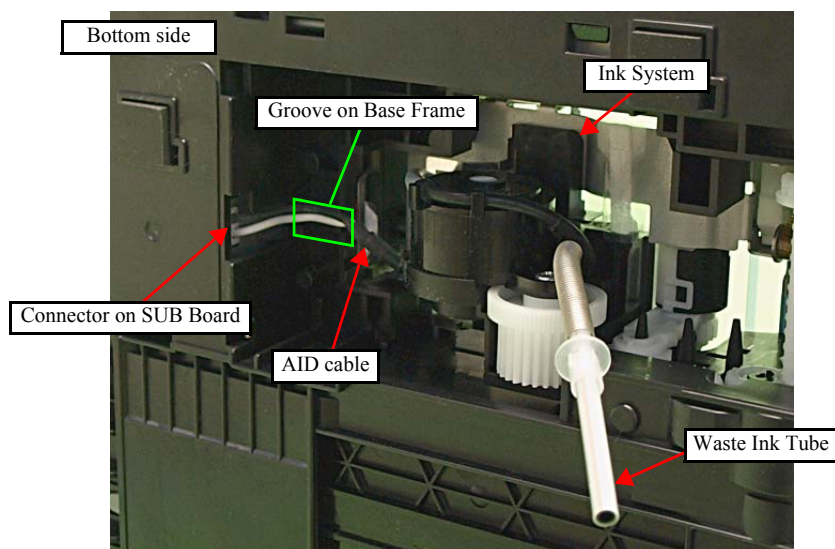

Figure 4-84. Removing the Ink System (2)
4. Disconnect the AID cable from the connector on the SUB Board. (See Fig. 4-84.)
6. Connect the AID cable to the connector on the SUB Board, and route the cable through the groove on the Base Frame. (See Fig. 4-84.)